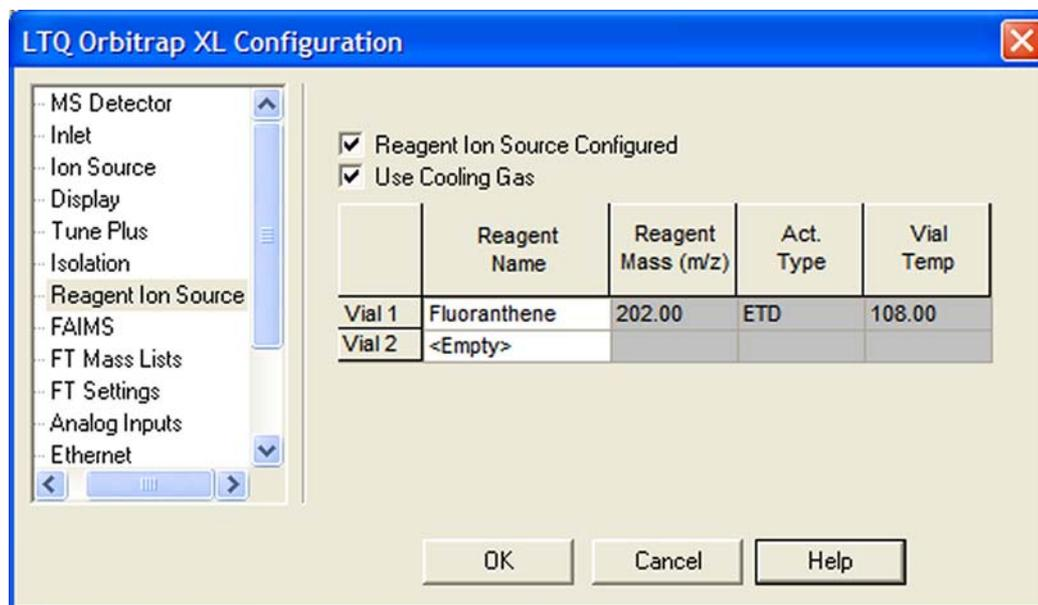

Figure 8-8. LTQ Orbitrap Series Configuration dialog box – Reagent Ion Source page
6. Select the Use Cooling Gas check box as shown in Figure 8-8.